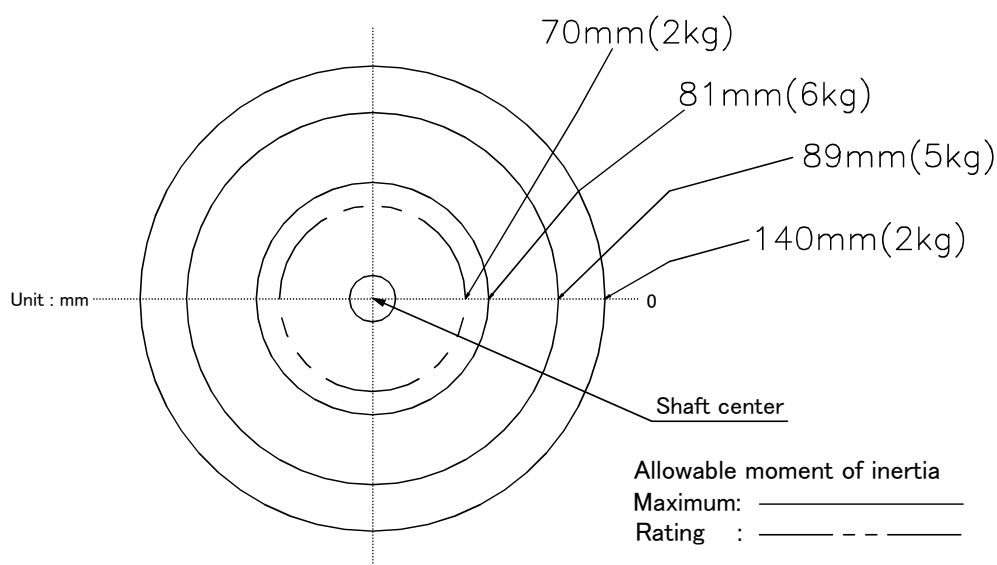
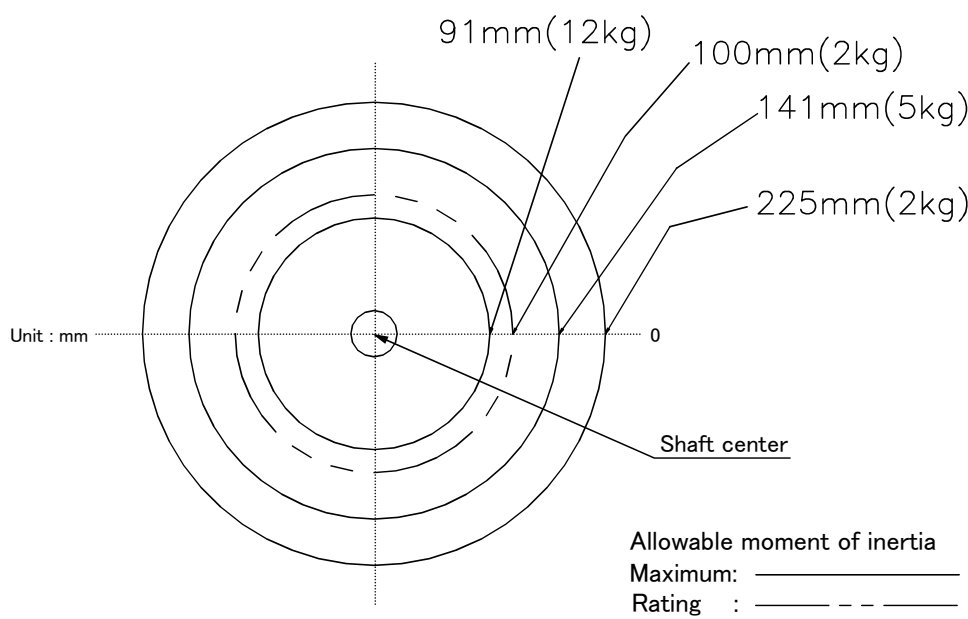
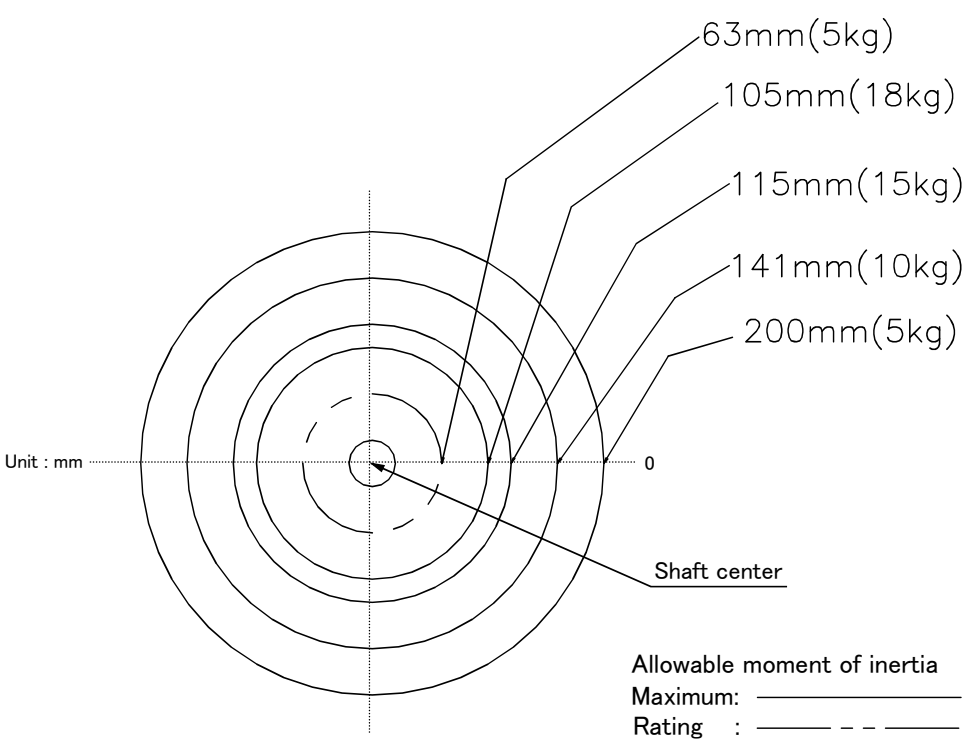

Fig.2-1 : Position of center of gravity for loads (for loads with comparatively small volume): RH-6SH series
Fig.2-2 : Position of center of gravity for loads (for loads with comparatively small volume): RH-12SH series
Fig.2-3 : Position of center of gravity for loads (for loads with comparatively small volume): RH-18SH series
- (1) The tooling should have the value less or equal than the smaller of the tolerable inertia and the tolerable moment found in Page 13, "2.1 Standard specifications".
- (2) Fig. 2-1, Fig. 2-2 and Fig. 2-3 shows the distribution dimensions for the center of gravity in the case where the volume of the load is relatively small. Use this figure as a reference when designing the tooling.